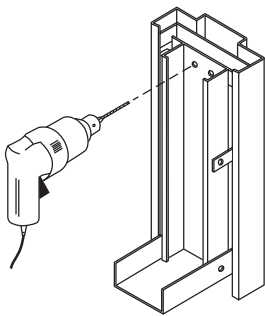

Fig. 11 – Channel Type Steel Stud
- Position studs in frame throat and attach to anchors with screws or weld. If using screws, drill from the back side of the stud, through both the stud and anchor, then attach with (2) screws per anchor location (see fig. 11).
- or, when anchors are strap type, attach anchor to face of stud through the anchor strap (2) per anchor. Screws shall be #6 x 3/8" (min.) steel sheet metal or self tapping type.